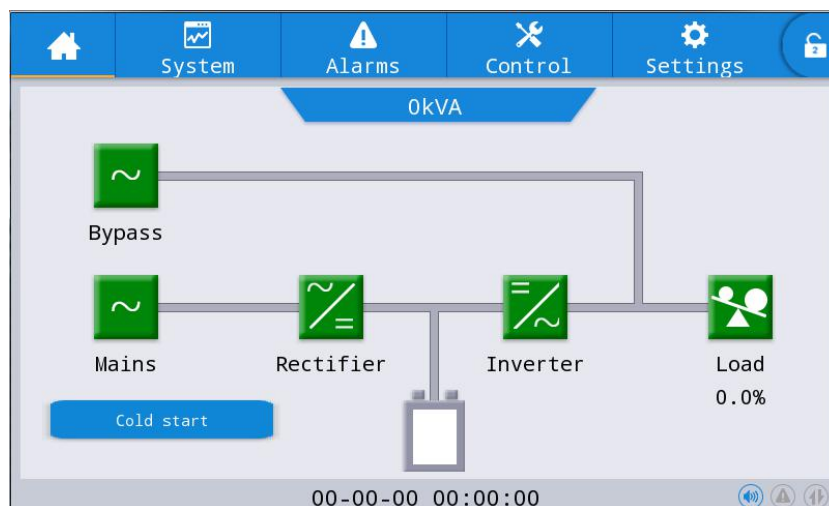

Fig. 5-1 The cold start button in LCD
- 3.After that, press the button for cold start on the LCD, as shown in Fig. 5-1. The UPS will start up and the system transfers to battery mode in 30S.